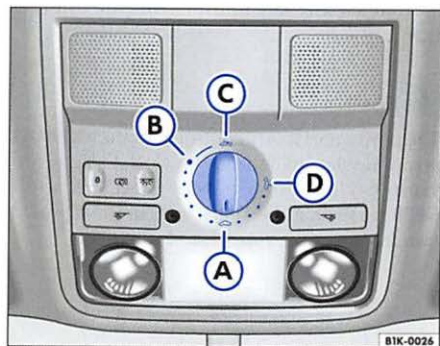

Fig. 34 Section of roof: rotary control for power roof
- Turn the rotary control to position ⇒ **fig. 34 B**. The roof opens to the convenience position where wind noise is reduced.
If the power roof has been opened again by the pinch protection, it can be closed only by pressing back the rotary control back to position ⇒ page 41, fig. 34  until the power roof has closed fully. Please note that the roof will now close without pinch protection.